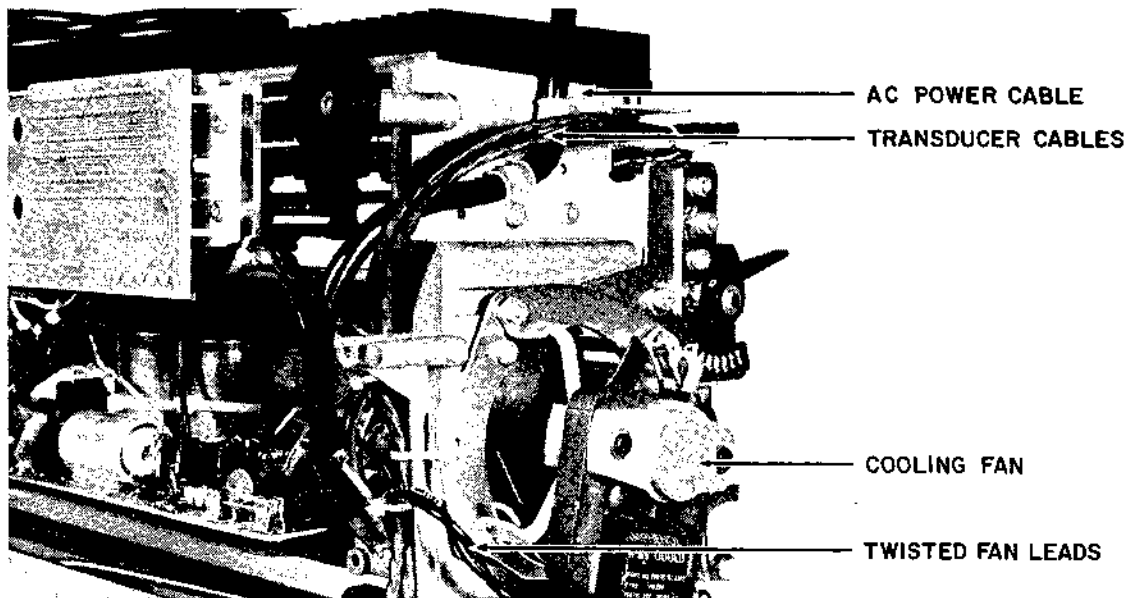

Figure 5-57 AC CABLE AND FAN INSTALLATION
7. Slide the power supply into place in the cavity, circuit board down and interconnecting power cable to the left. Fasten the supply into place by driving the six (6) 6-32 x 5/8" screws in through the #6 flat washers, the power supply insulators and into threaded holes in the power supply frame. Tighten these screws down to deform the tips of the insulators and spread them out under the washers. Be careful not to overtighten these screws which will cause the insulators to break up.
12. Study Figure 5-57. Install and connect the ac power cable as follows: